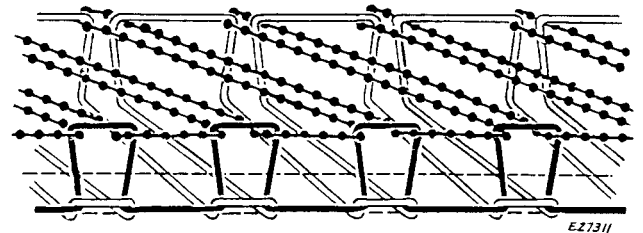

Fig. 6. Stitch Formation
- ... fittings available to produce the three-thread purl-on-the-edge stitch (Type #505, see Fig. 6), upon specific order. See page 12 for instructions on threading.